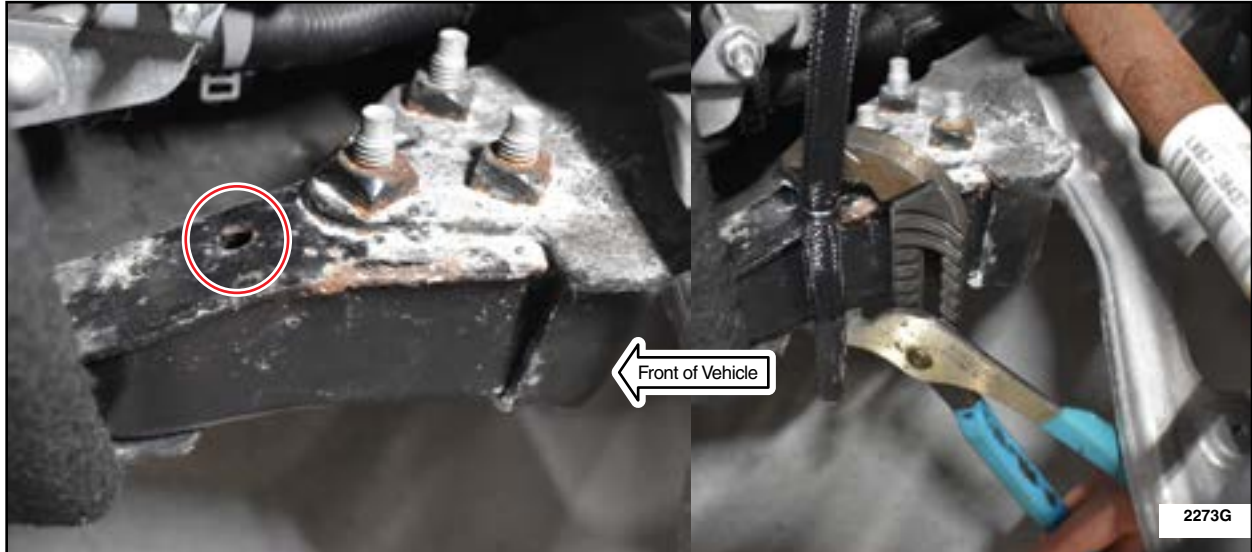

FIGURE 11
25. Attach hose to subframe. Position fir tree fastener and push in as far as possible. If needed you can use groove joint pliers to secure fir tree fastener fully into the hole in the subframe. See Figure 11.